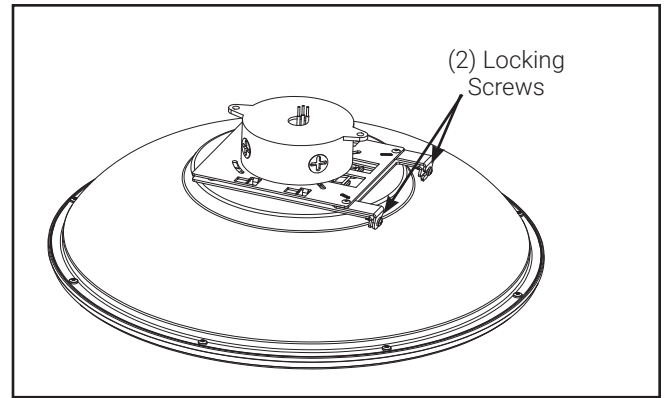

Figure 5
- Pivot both locking hinges back into place and tighten locking screws to 10 inch-pounds (**FIG. 5**)